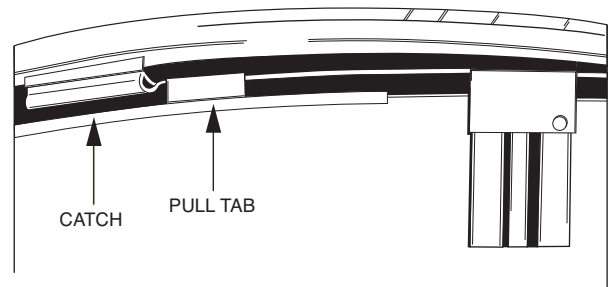

Fig. 36 — Latch Segment Retaining Brackets
4. Close and latch segment retaining brackets to the position shown in Fig. 36. Make certain the retaining bracket is fully engaged under the catch.